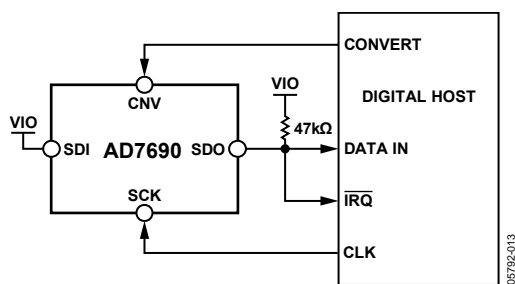
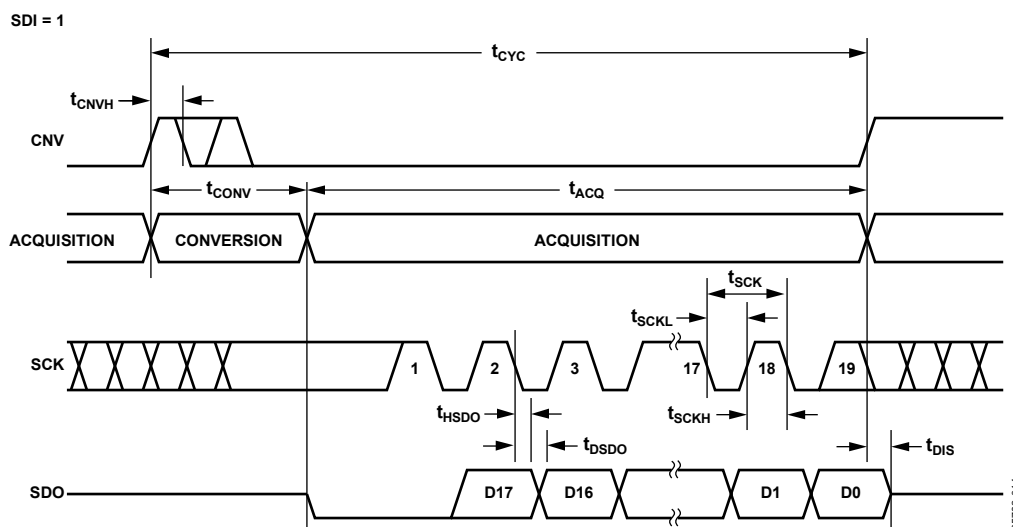

Figure 36. 3-Wire  $\overline{\text{CS}}$  Mode with Busy Indicator Connection Diagram (SDI High)
Figure 37. 3-Wire  $\overline{\text{CS}}$  Mode with Busy Indicator Serial Interface Timing (SDI High)
- In  $\overline{CS}$  mode if CNV or SDI is low when the ADC conversion ends (see Figure 37 and Figure 41).
The connection diagram is shown in Figure 36, and the corresponding timing is given in Figure 37.